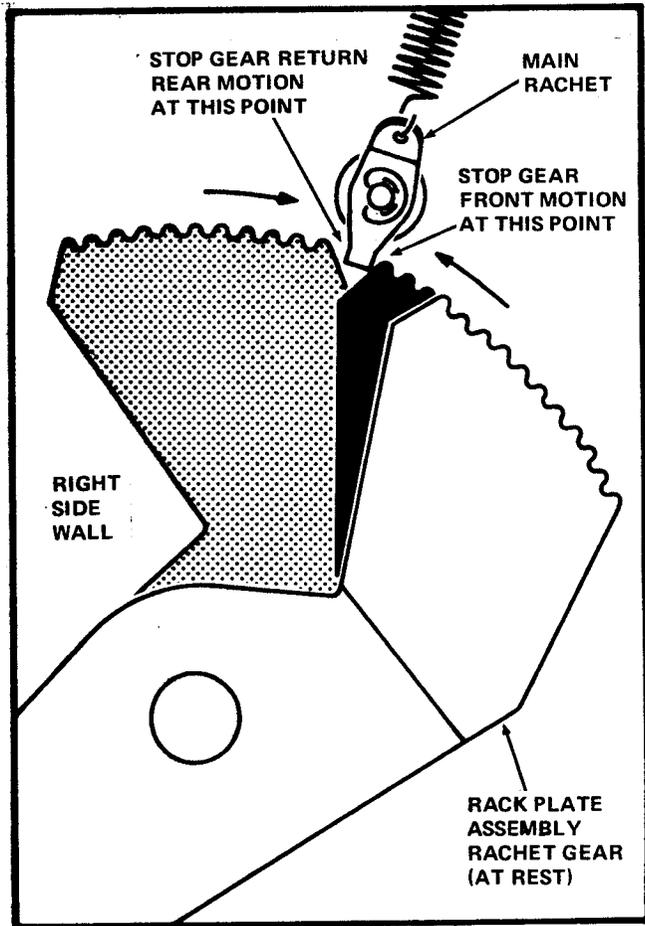

FIGURE 8
20. Test the operation of the Counter. See Figure 8.